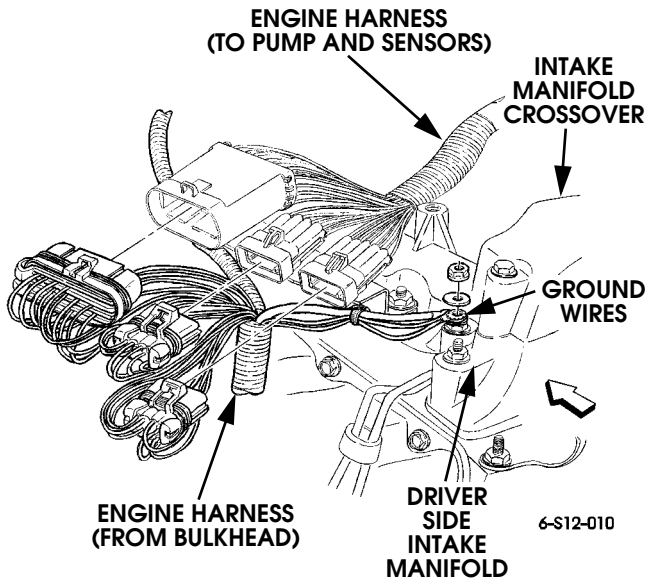

Figure 12-56: Engine Harness Connections at Driver Side of Engine (Turbo Diesel)
- harness wires to injection pump and sensors (Figures 12-56 and 12-57)
- harness ground wires (Figures 12-56 and 12-57)